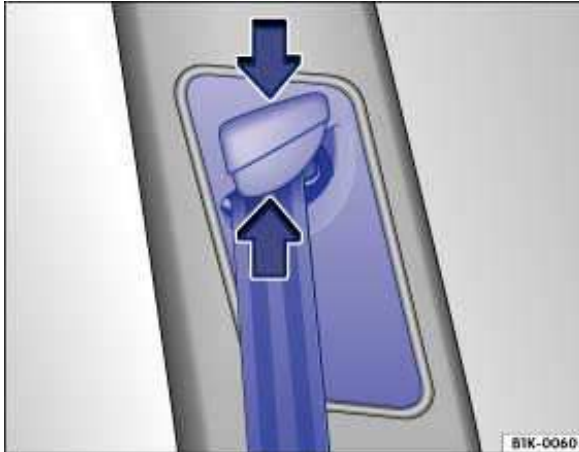

Fig. 59 Next to the front seats: Safety belt height adjuster.
- Pinch the safety belt attachment together as indicated by the arrows and hold ⇒ fig. 59.